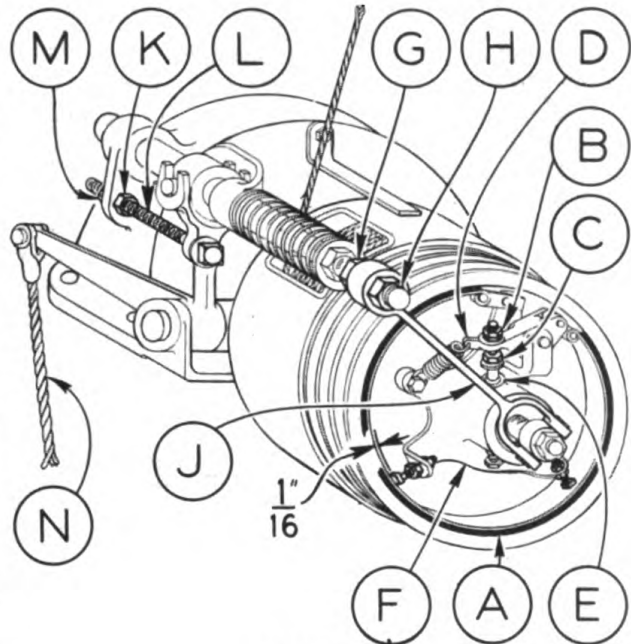
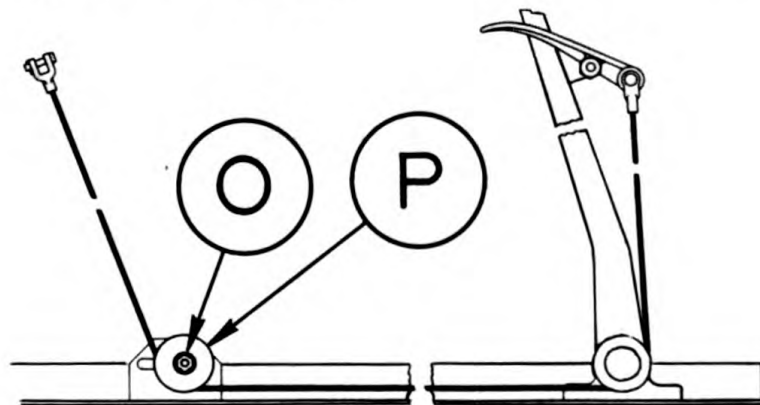

FIGURE 85
FIGURE 86
DIPPER TRIP CLUTCH AND TRIP OPERATING CABLE: (Figures 85 and 86).
The dipper trip clutch (Figure 85) should be so adjusted that when the operator pushes down on the trip lever (Figure 86) which is mounted on lever No. 4 Page 42, the dipper door will open instantly. This clutch should have a slight amount of drag all the time to prevent slack in the trip cable during the cycle of operation. To adjust the clutch band (A) for dipper tripping, loosen lock nut (B) and turn the adjusting bolt (C) out of the band crank arm (D) toward the hub (E) of the clutch spider (F) to tighten the clutch just enough to open the dipper door when the trip lever is pushed down. When the adjustment on bolt (C) is used to its full extent, loosen lock nut (B), and screw bolt (C) up into band arm (D). Then loosen lock nut (G) and turn down nut (H) which moves the clutch shifter yoke (J) in toward the clutch far enough to take up the adjustment lost by screwing bolt (C) into the clutch arm. Tighten lock nut (G) and readjust clutch with bolt (C). To provide the proper amount of drag in the clutch to remove the slack in the trip cable, loosen nut (K) on bolt (L) and tighten nut (M), then test. If bolt (L) is drawn too tight, the dipper door will open during the operating cycle. Tighten lock nut (K) after proper adjustment of bolt (L) is made. The guide bolts should be so set that there is approximately  $1/16$ " clearance between the head of the guide bolts and the clutch band when the clutch is fully engaged by holding the trip lever down. To adjust trip operating cable (N), shown in Figure 86, loosen lock nut (O) and move sheave (P) back far enough to make the cable taut. Tighten lock nut (O).